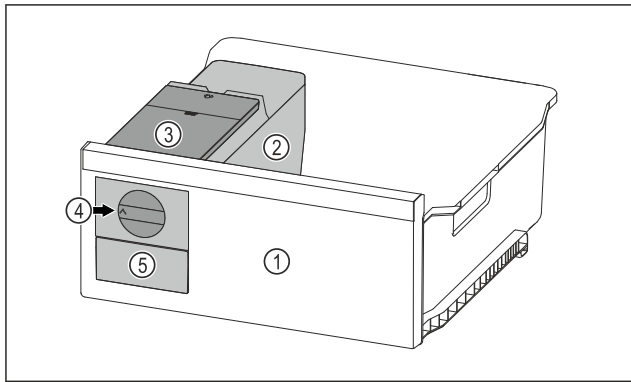

Fig. 148 Example illustration
- ▶ Turn the rotary knob Fig. 148 (4) clockwise as far as it will go.
- ▶ Ice cubes fall from the ice cube tray into the ice cube drawer Fig. 148 (5).